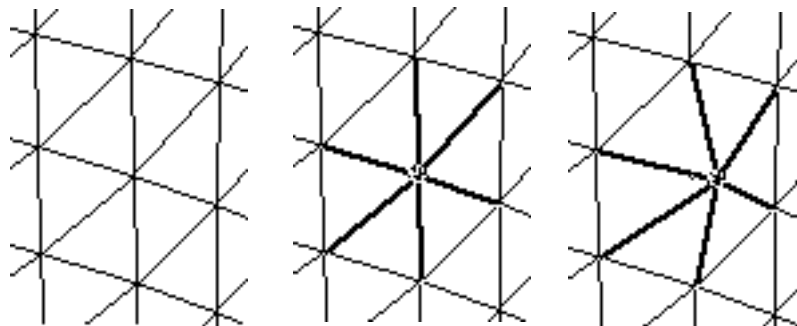

Fig 3.34 Before, during, and after move node
- Click on a node to select it (Fig 3.34).